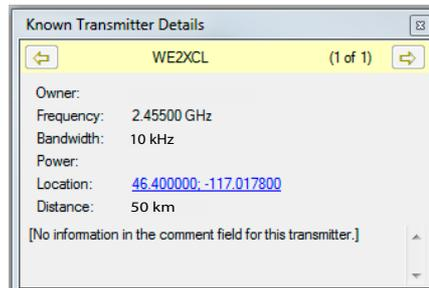

Figure 5-31. Known Transmitter Details
3. View the details displayed on the Known Transmission pop-up. Refer to Figure 5-31.